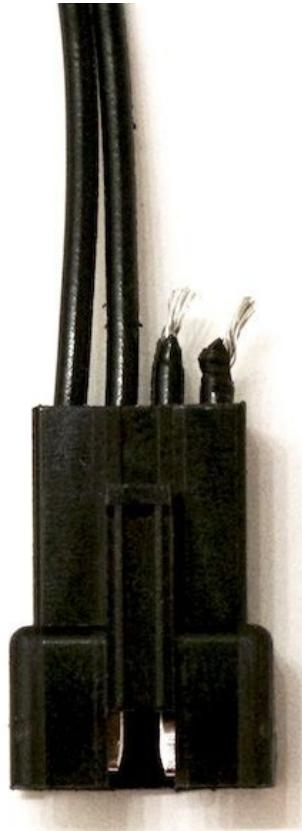

Figure 14-5. Wires cut short
1. Take one of the female JST cables, and cut two of the wires down really short. Strip the ends of each wire, to prepare them for soldering, as shown in Figure 14-5.